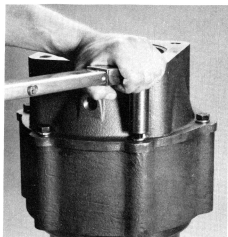

Fig. 1
2. Remove pipe plug (12) from case and drain oil from unit. Retain oil for analysis.
3. Remove remaining two pipe plugs (29) in motor adapter (28).
5. Remove six bolts (30) from motor adapter (28). (Fig. 1)
6. [Model 50— Remove motor adapter (28) from internal gear/housing (11).]